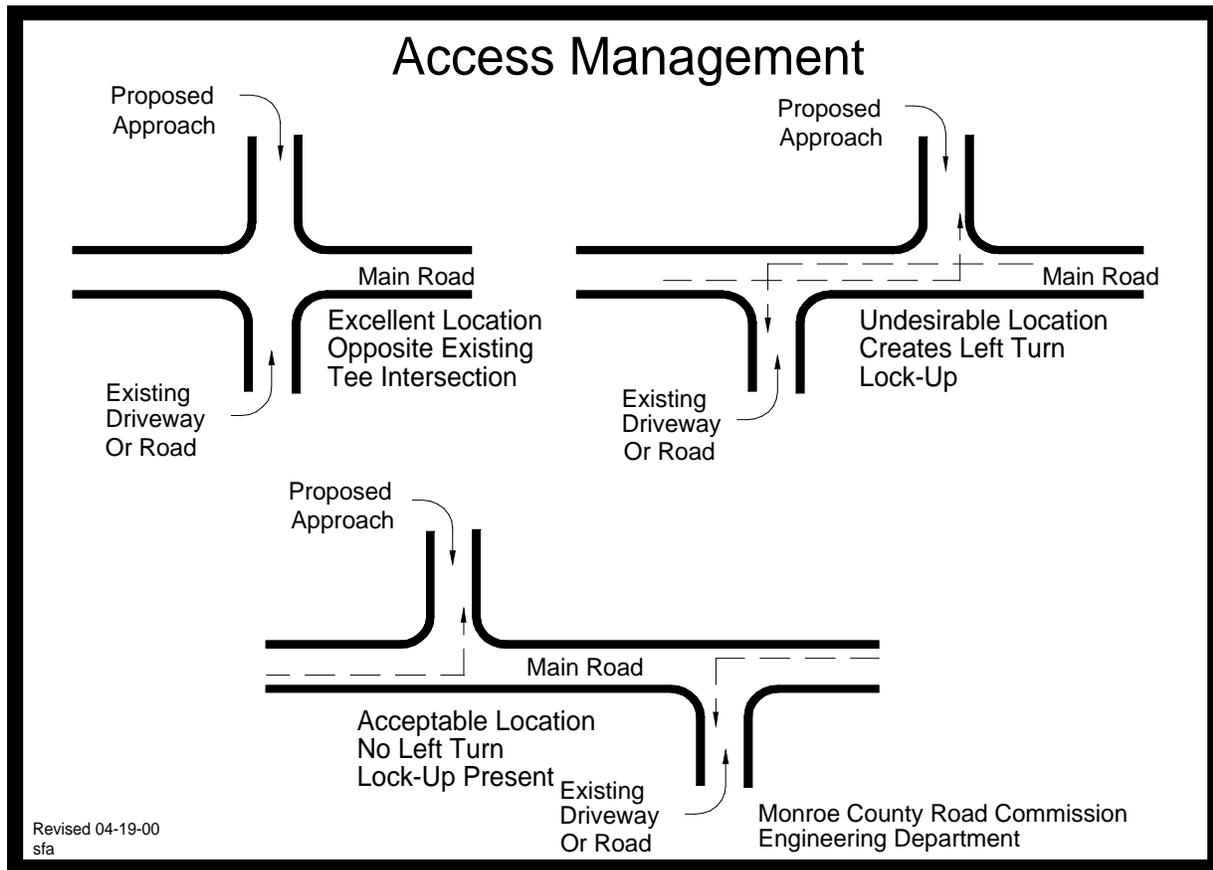

Figure 1: Access Management
3.2.1.11 The new approach should be located so as to not create a left turn lock-up for motorists turning left into an existing higher volume driveway or road which intersects the main road on the opposite side of the proposed approach, as shown in Figure 1 below.